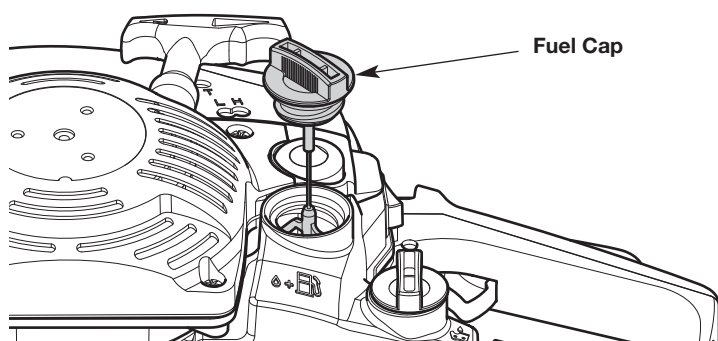

Fig. 2
2. Slowly remove the fuel cap (Fig. 2).